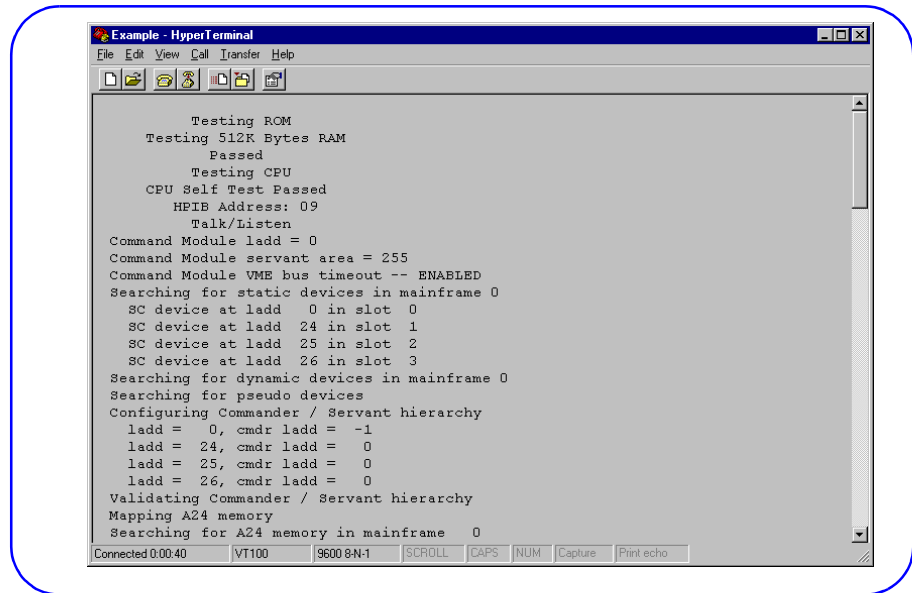

Figure 39. Typical Resource Manager Display
- 6 When the *session name - HyperTerminal* screen is displayed, turn mainframe power ON and observe the (Resource Manager) display. See the *HP E1406A Command Module User's Guide* for details on the display. See Figure 39 for a portion of a typical Resource Manager display.